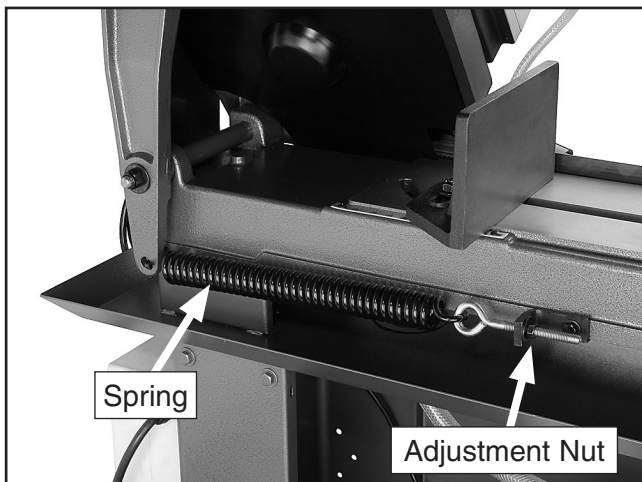

Figure 20. Spring tension adjustment.
2. Using a 14mm wrench, adjust the feed pressure tension spring. Tighten enough to remove play but not enough to apply tension to the spring (see **Figure 20**).